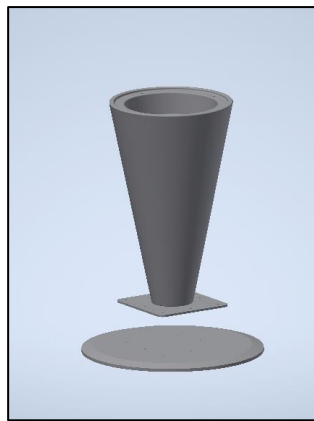

Figure 1
1. Lay the top panel on a nonmarring surface (Figure 1)